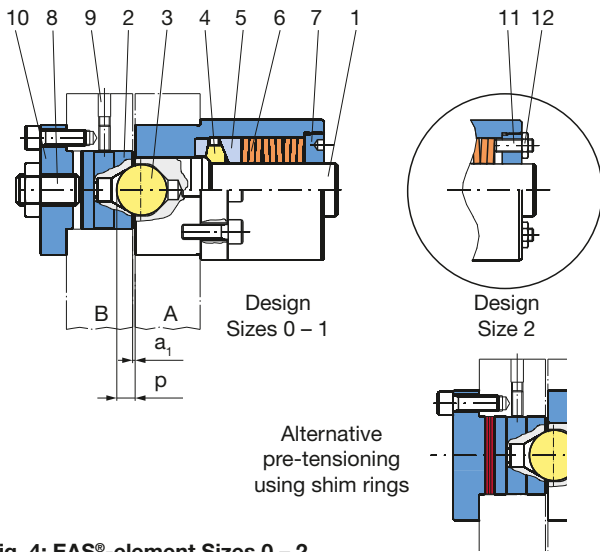
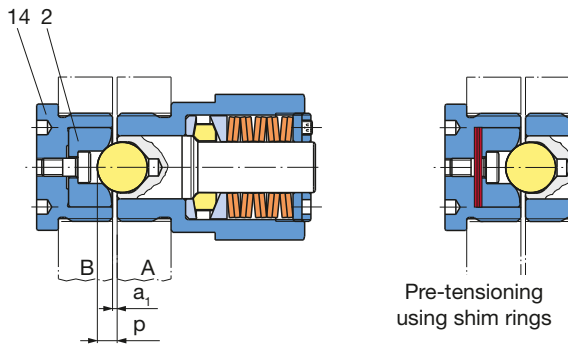

Fig. 4: EAS®-element Sizes 0 – 2
Fig. 5: EAS®-element Sizes 02 – 01
- Grease the thrust piece 2 (Fig. 4) or the adaptor bushing 14 (Fig. 5) well (Please use: grease NLGI class 2 with a basic oil viscosity of 220 mm²/s at 40 °C, e.g. Mobilgrease HP222) and insert in or screw onto flange B. The set screw 9 must be removed.
The limit torque for overload on the clutch is adjusted by changing the cup spring pre-tension of each element. For Sizes 02 – 1, adjustment is carried out via the adjusting nut 7, for Size 2 via 4 set screws 11 (Fig. 4). All 4 set screws must be evenly adjusted and countered. During torque adjustment, it is essential that all elements on the clutch are adjusted evenly.